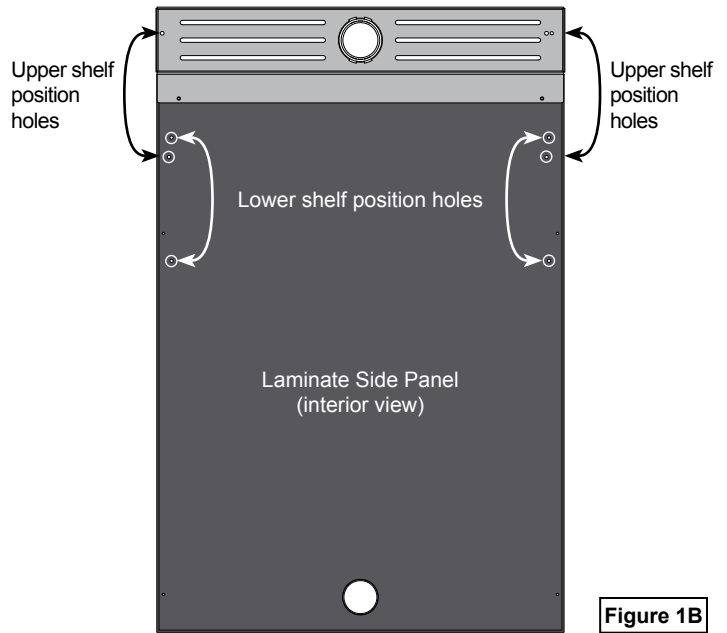

Figure 1B
2. From inside the lectern, use a drill with a 3/16" drill bit and slowly drill out the corresponding pre-drilled pilot holes located on the laminate side panel. **Figure 1B**. Masking tape can be used on the exterior to minimize chip-out.